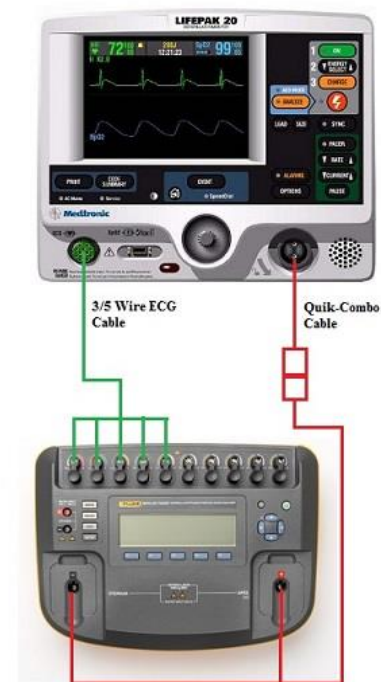

Figure 2.4: Quik-Combo Defibrillator Charge Time Test-Setup
1. Establish the setup as shown in Figure 2.4.